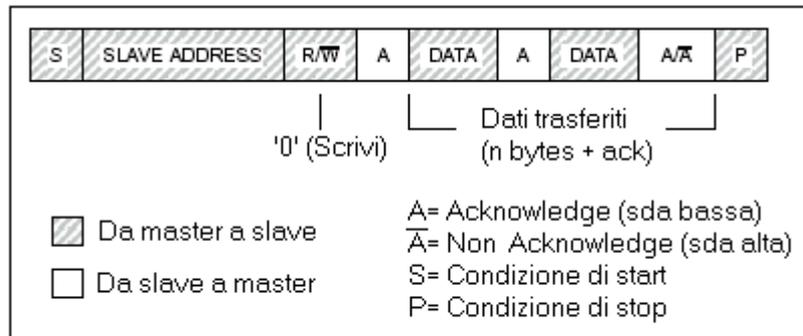

Fig. 5
- Fig. 5 : Master-transmitter Slave-receiver